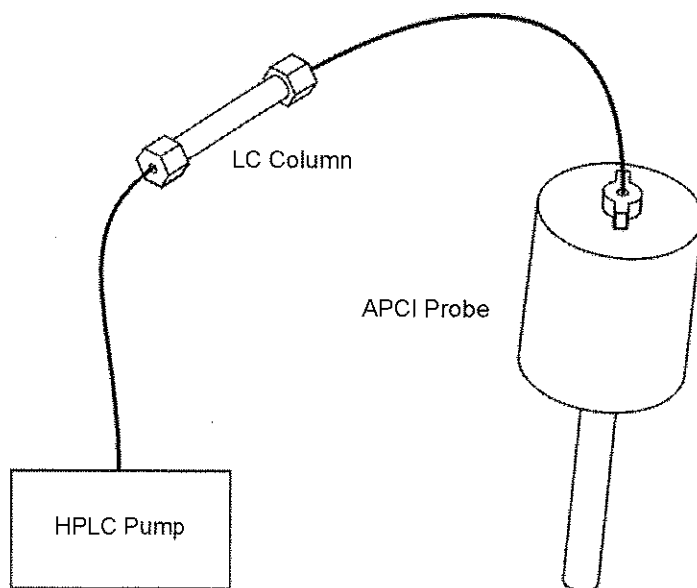

Figure 3-9 Column Connection to the APCI Probe
2. Reconfigure the connections to the APCI probe, so that the LC column is connected directly to the probe; i.e., remove the zero-dead-volume T-piece and syringe pump connection (Figure 3-9).